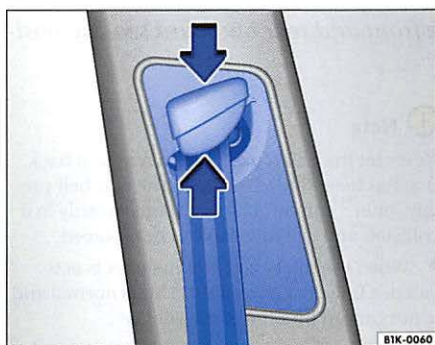

Fig. 20 Location of manual belt height adjuster
- Keep the strap guide squeezed in the direction indicated by the arrows ⇒ fig. 20.